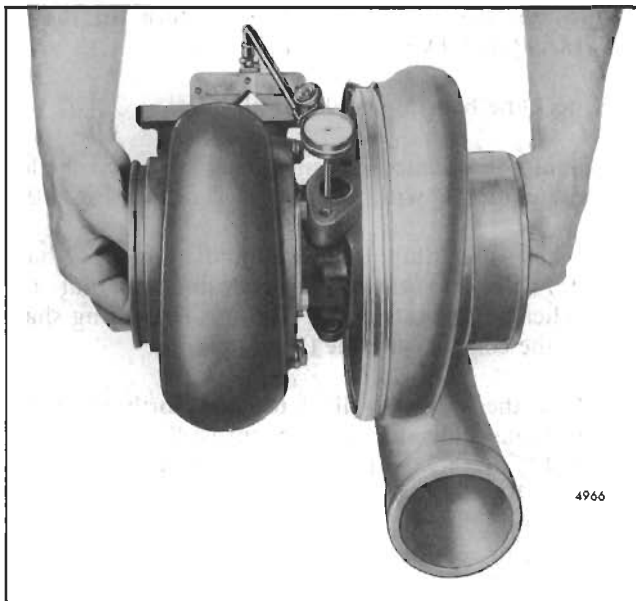

Fig. 11 - Checking Shaft Radial Movement
- a. Position the magnetic base J 7872-2 with the swivel adaptor J 7872-3 on the flat surface of the turbine housing inlet flange as shown in Fig. 11.
- d. Grasp each end of the rotating assembly (Fig. 11) and, applying equal pressure at each end, move the rotating shaft first toward and then away from the dial indicator, creating a transverse movement in the shaft. The dial indicator displacement should be between .003" and .007". If the displacement does not fall within these limits, disassemble and repair or replace the rotating assembly.
- d. Grasp each end of the rotating assembly (Fig. 11) and, applying equal pressure at each end, move the rotating shaft first toward and then away from the dial indicator, creating a transverse movement in the shaft. The dial indicator displacement should be between .003 " and .007 ". If the displacement does not fall within these limits, disassemble and repair or replace the rotating assembly.